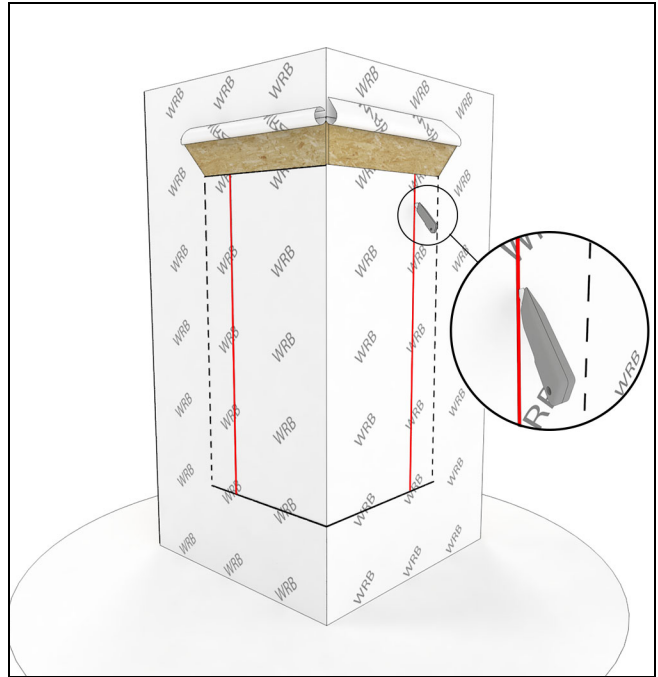

Figure 8
7. Make a vertical cut about 6" (152) from the sides of the rough opening running from the top to the bottom of the opening. See Figure 8